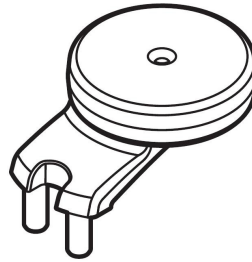

Figure 1
- a) **Positioning:** The appliance should be placed in a Styrofoam (Polystyrene) scan box. The scan box should be placed on the guide holder (Figure 1), in the same orientation as scanned in the patient's mouth. Position the guide holder in the center position on the patient support mask.